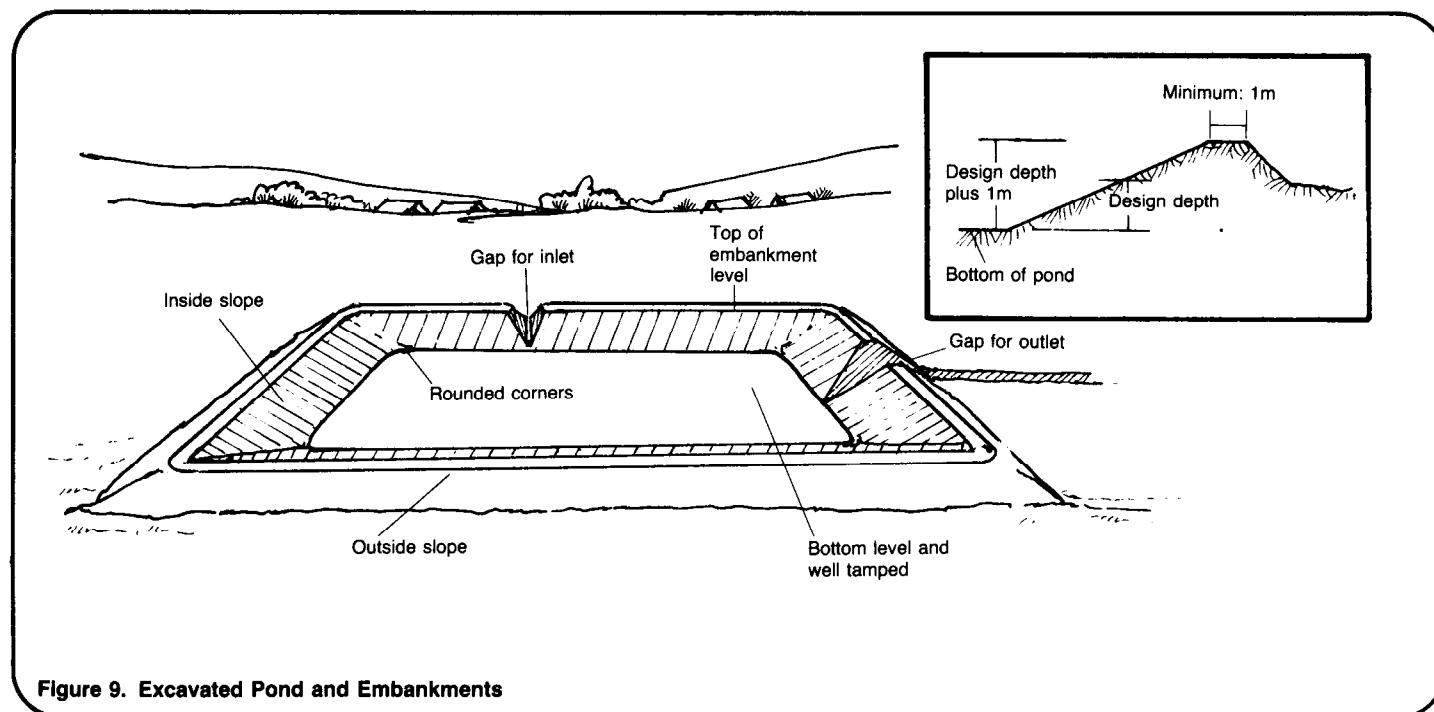

Figure 9. Excavated Pond and Embankments
2. Leave gaps in the embankment at pipe locations as shown in Figure 9. It may also be convenient to leave one or more wide gaps for removal of excavated soil.